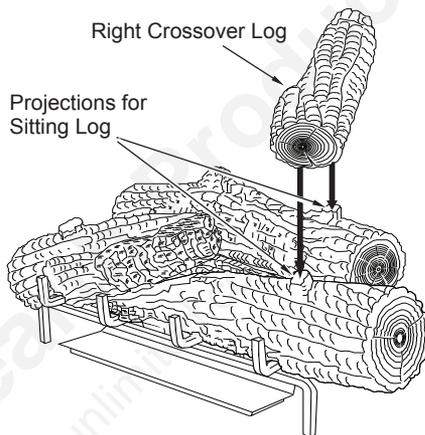

Figure 60 - Installing Right Crossover Log
5. Place the right crossover log onto the rear log and the right front log as shown in Figure 60. The right crossover log has notches in the bottom that will line up with the projections on the rear log and the right front log.